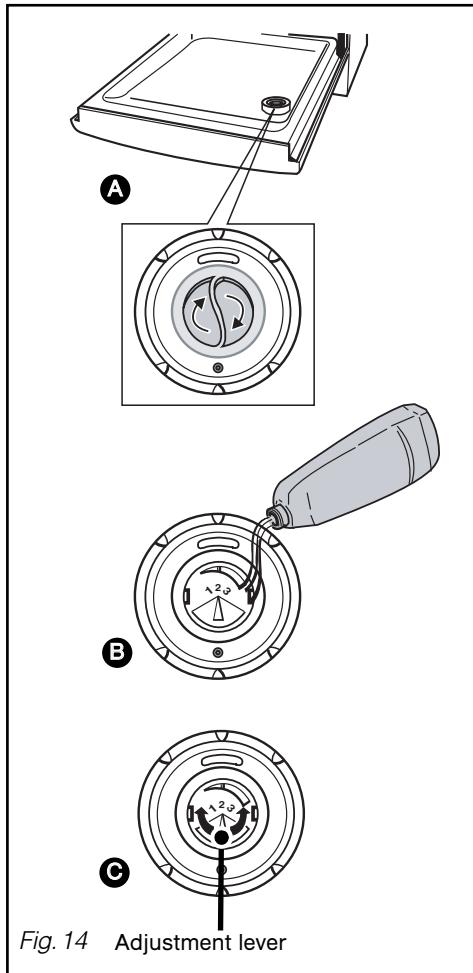

Fig. 14 Adjustment lever
- **Loading of rinsing product (Fig. 14)**
The original setting is in the centre (middle position: reference mark 2). If you encounter marks or poor drying after a few cycles, you can adjust the setting using the adjustment lever (fig 14 **C**; Reference mark 3 will increase the setting).